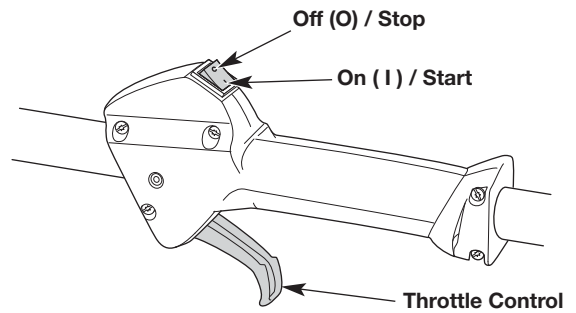
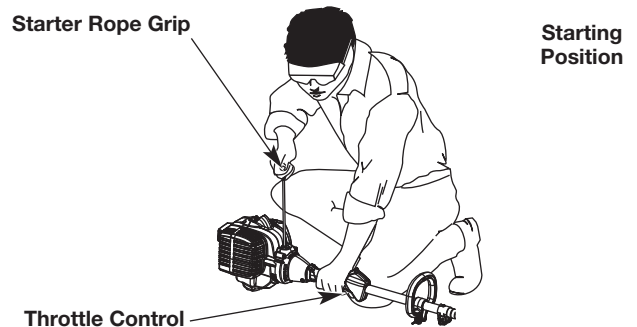

Fig. 8
Fig. 10
WARNING: Avoid accidentally starting the unit. To avoid serious injury, the operator and the unit must be in a stable position when pulling the starter rope (Fig. 10).
NOTE: There is no need to turn the unit on. The On/Off switch is in the ON (I) position at all times (Fig. 8).
5. Crouch in the starting position (Fig. 10).
6. Squeeze the throttle control (Fig. 8) and pull the starter rope with a controlled and steady motion **5 times** (Fig. 10).
2. Press and hold the On/Off switch in the OFF (O) position until the engine comes to a complete stop (Fig. 8).